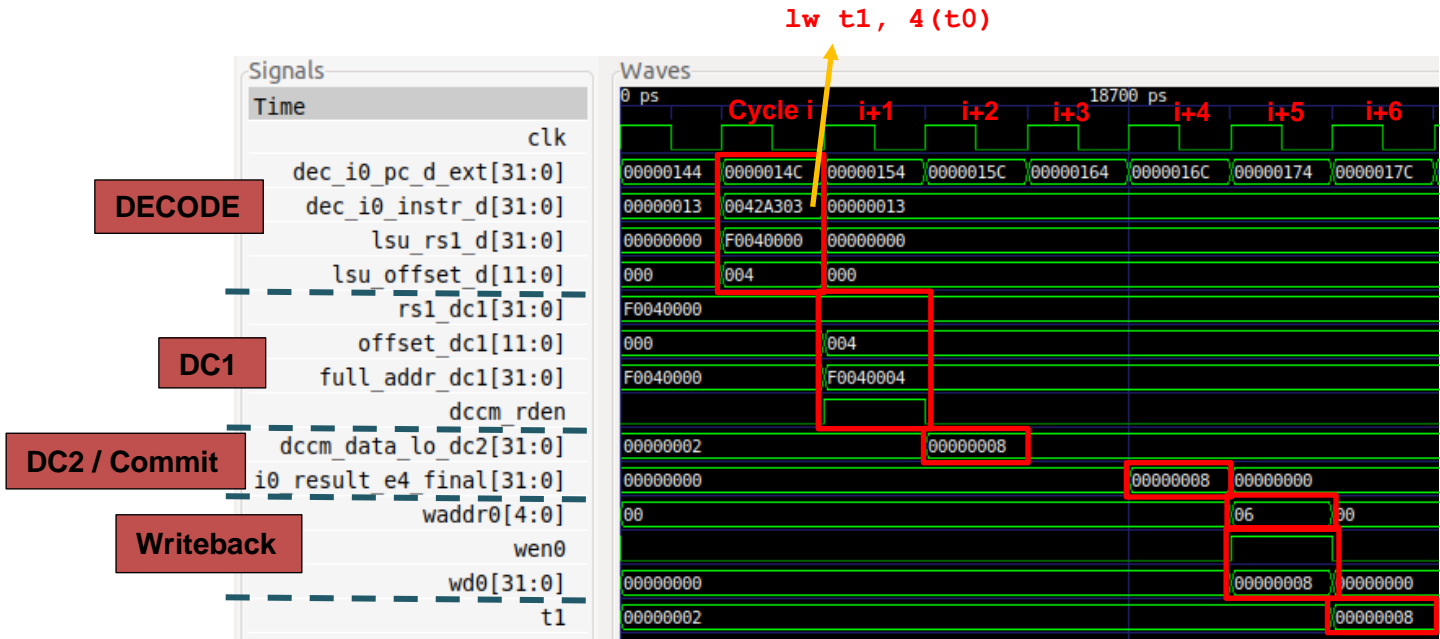
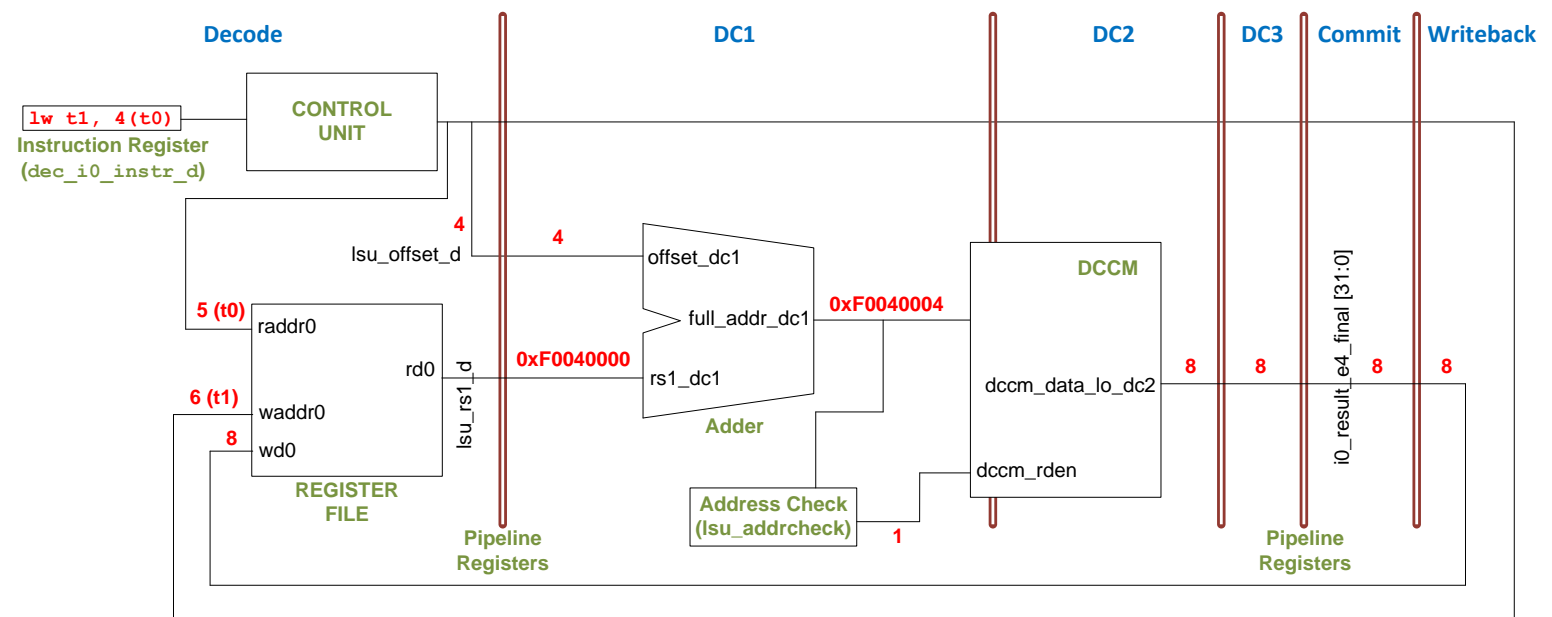
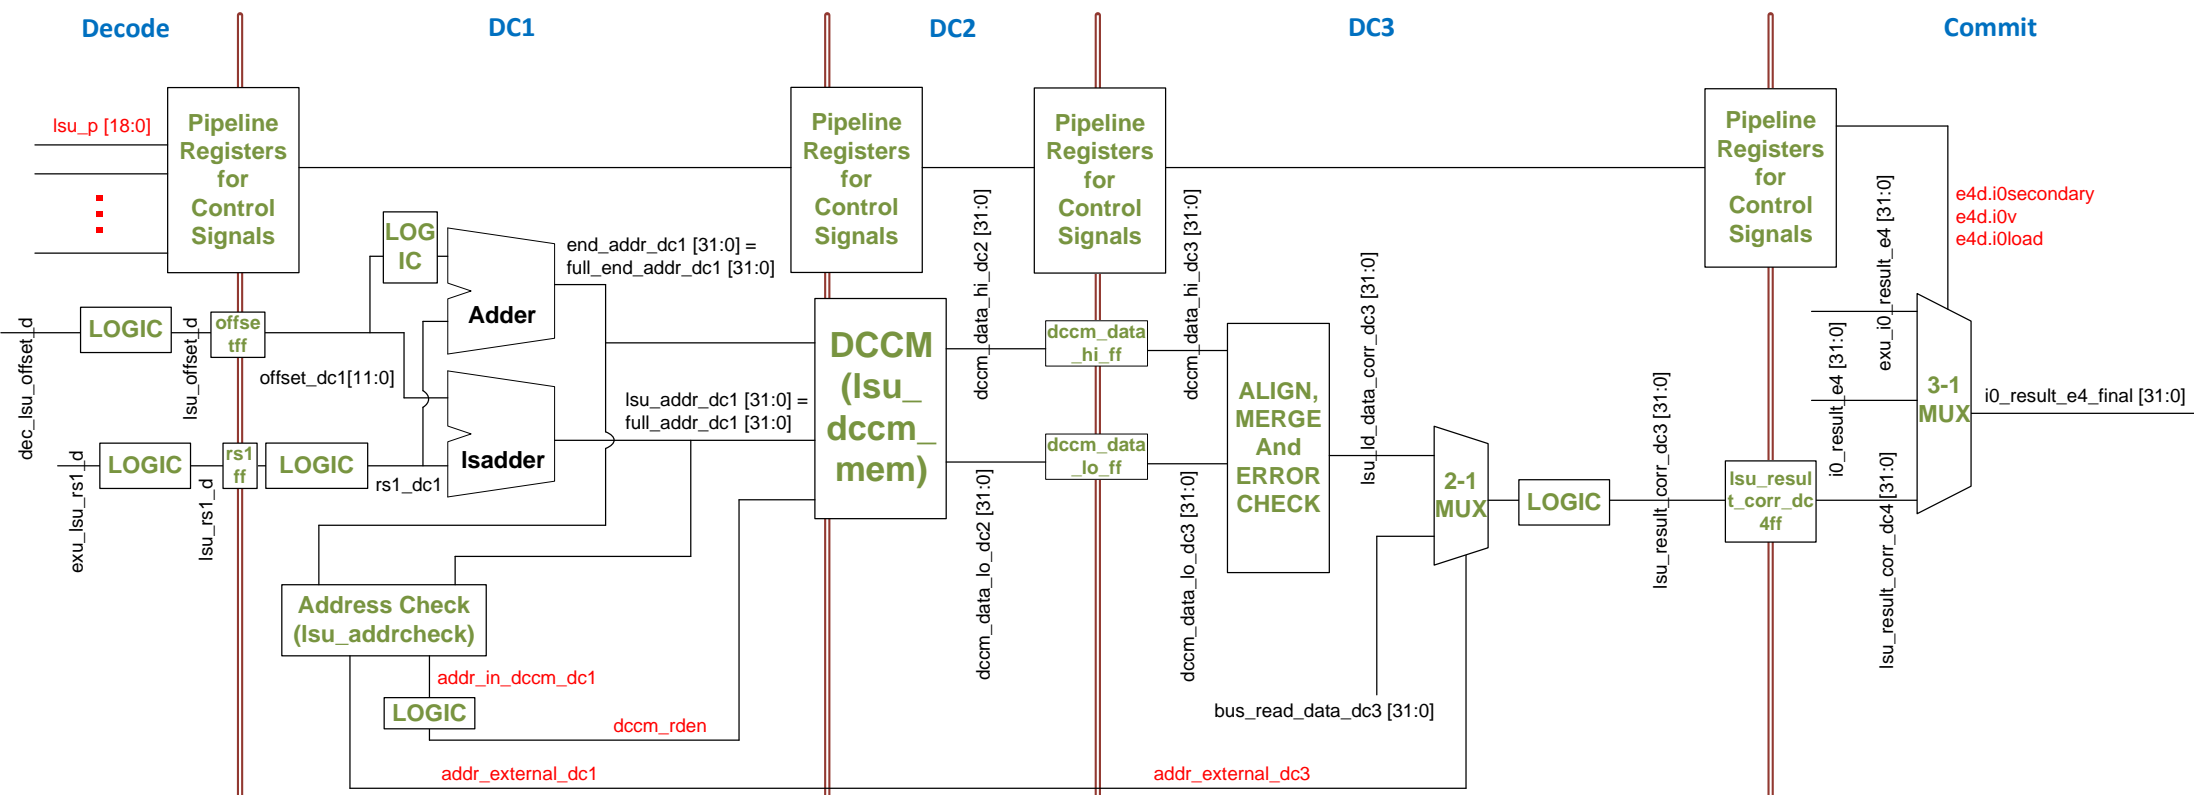

Figure 4. Verilator simulation for example program in Figure 2
Figure 5. High-level view of the `lw` instruction executing in the SweRV EH1 pipeline
Figure 6 Main elements traversed by load instructions in the Load/Store Pipe
Figure 4 shows the execution of the second `lw` instruction for an intermediate iteration of the loop from Figure 2. The signals shown are the ones specified in file: `[RVfpgaPath]/RVfpga/Labs/Lab13/LW_Instruction_DCCM/scriptLoad.tcl`. Note that all iterations are the same: the first load reads the DCCM's first data word (2) into `t1` (x6); the second load reads the DCCM's second data word (8) into the same register (`t1`).
Figure 5 shows a high-level view of the SweRV EH1 pipeline during the execution of the second `lw` instruction. Note that the figure merges the state of the processor in different cycles:
TASK: Replicate the simulation from Figure 4 on your own computer. Follow the next steps (as described in detail in Section 7 of the GSG):
[RVfpgaPath]/RVfpga/Labs/Lab13/LW_Instruction_DCCM) to open the same signals as the ones shown in Figure 4. For that purpose, on GTKWave, click on *File → Read Tcl Script File* and select the *scriptLoad.tcl* file.
Analyse the waveform from Figure 4 and the diagram from Figure 5 at the same time. The figures include some signals associated with the Decode, DC1-3, Commit, and Writeback stages. The values highlighted in red correspond to the second *lw* instruction as it traverses these stages.
- **Cycle i+5: Writeback:** Finally, the value read from memory is **written back** to the register file through signal *wd0* = 0x8. Given that *wen0* = 1, the value is written at the end of that cycle into register x6 (*waddr0* = 0x6). You can observe that, in the following cycle (last cycle shown in Figure 4), register x6 (also called *t1*) contains the new value
In this section, we analyse the stages traversed by the *lw* instruction in more detail. Figure 6 shows a diagram of the main elements that the load instruction from our example traverses during its execution along the Load/Store pipe (DC1, DC2, and DC3 stages). You may need to zoom into the figure to be able to see the details. The black blocks labelled *LOGIC* in the figure contain various blocks, such as multiplexers and logic gates. For the sake of simplicity, only some of the block's interface signals are included in the figure.
The Decode and Writeback stages are identical as the ones shown for A-L instructions (see Figure 6 in Lab 12). However, we point out a few details of the Decode stage. Recall that in the Decode stage, control signals are generated and instructions and operands are scheduled to the proper pipes:
- The load's base address is in signal *exu_lsu_rsl_d*. (This signal is produced from a 4:1 multiplexer (shown in Figure 4 of Lab 11), and propagated to the DC1 Stage after traversing some logic.)
- The signals for load/store instructions are in *lsu_p*, a new control signal packet shown in Figure 6.
Similarly to Decode, the Commit Stage was also analysed in Lab 12, but we now include the input to the final 3:1 multiplexer related to load instructions (*lsu_result_corr_dc4*), which was omitted in Lab 12 for the sake of simplicity. Remember that the output of this 3:1 multiplexer is *i0_result_e4_final[31:0]*, as shown in Figure 6. Moreover, we only focus on Way 0 in this lab, but a load/store can execute through either way of the two-way superscalar processor. Note, however, that there is only one L/S (Load/Store) Pipe. Thus, Way 1 also has a 3:1 multiplexer (whose output is *i1_result_e4_final[31:0]*) and one of its inputs is *lsu_result_corr_dc4*, as shown in Figure 4 of Lab 11.
TASK: Extend the simulation from Figure 4 to include the signals shown in Figure 6, which are explained below. A *.tcl* file that you can use is provided at: *[RVfpgaPath]/RVfpga/Labs/Lab13/LW_Instruction_DCCM/scriptLoadExtended.tcl*
TASK: Locate the modules and signals from Figure 6 in the Verilog files of the SweRV EH1 processor.
TASK: Include signal `lsu_p` in the simulation from Figure 4 and analyse its bits according to this description.
In addition to the address to be read, the *end address* (`end_addr_dc1[31:0]`) is also computed in another adder (we should highlight that this second adder was not shown in Figure 5 nor in Figure 4 of Lab 11 for the sake of simplicity). This is the address of the last byte that must be read from memory. This address is used to handle unaligned accesses and sub-word (byte, half-word) accesses.
In our example, the DCCM read enable signal goes high (`addr_in_dccm_dc1 = 1`). This signal traverses some logic and then it is provided to the DCCM (signal `dccm_rden`) to enable/disable the access (in our example, to enable it). Signal `addr_external_dc1`, which is 1 when the External DDR Memory must be enabled and 0 otherwise, is propagated and used by the DC3 Stage, as shown in Figure 6.
In the Commit stage, a 3:1 multiplexer selects the read data (`i0_result_e4_final[31:0]`) to be sent to the Writeback Stage (see Figure 6). This 3:1 multiplexer could also select the output of the ALU, as was already explained in Labs 11 and 12, and the output of the Secondary ALU, as we will analyse in Lab 15.
This stage was already explained in Labs 11 and 12 and thus it is not shown in Figure 6, where the result of the addition was written to the destination register. In this case, this stage writes the DCCM data to the destination register.